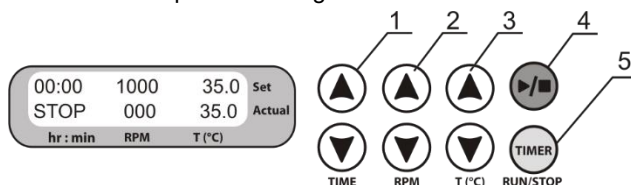

Figure 3. Control Panel
5.5.1. **Setting time (TIME).** Using the ▲ and ▼ **TIME** keys (fig. 3/1) set the required working time interval in hours and minutes (increment 1 min).
5.5.2. **Setting speed (RPM).** Using the ▲ and ▼ **RPM** keys (fig. 3/2) set the required speed (increment 10 rpm).
5.5.3. **Setting temperature (T, °C).** Using the ▲ and ▼ T, °C keys (Fig. 3/3) set the necessary temperature (increment 0.1°C).
5.6.2. Press the ►/■ **RUN/STOP** key (fig. 3/4). The platform will start rotating and the timer indicator will start counting up the time interval (with 1 min precision).
5.8. If required, there is possibility to restart the timer when it is running. Press the **TIME RUN/STOP** key once (fig. 3/5) to stop the timer. Press the **TIME RUN/STOP** key again to restart the timer.
Caution! At the end of the set time period the platform movement is stopped automatically, but the heating can be stopped only manually by reducing the temperature using the ▼ T, °C key (Fig. 3/3 - lower key) till the OFF sign appears in the upper line (Set) of the display